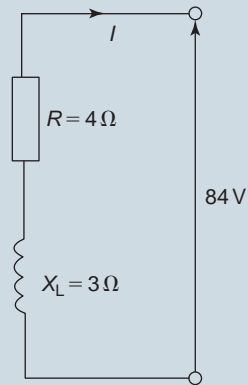

Figure 17.26
16. The amplitude of the current I flowing in the circuit of Fig. 17.26 is: